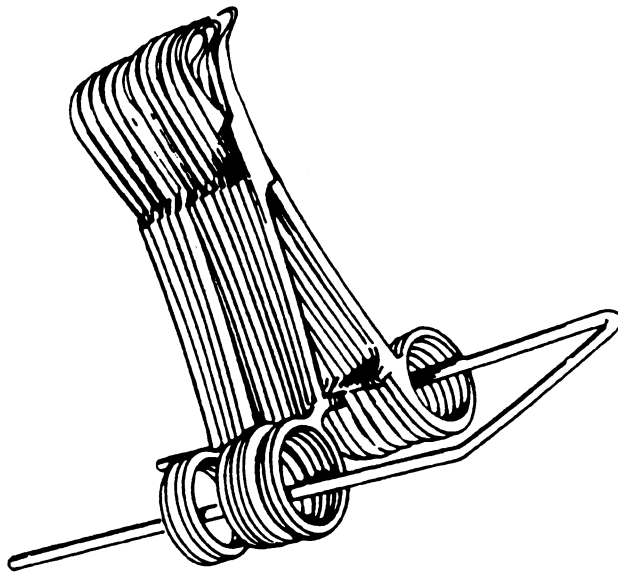

Figure 1. OPEN, UNLOCK, OR DISASSEMBLE INSTRUMENTS.
- b. Open, unlock, or disassemble instruments to permit steam to contact all surfaces (Figure 1). Steam will only sterilize the surface it can touch.